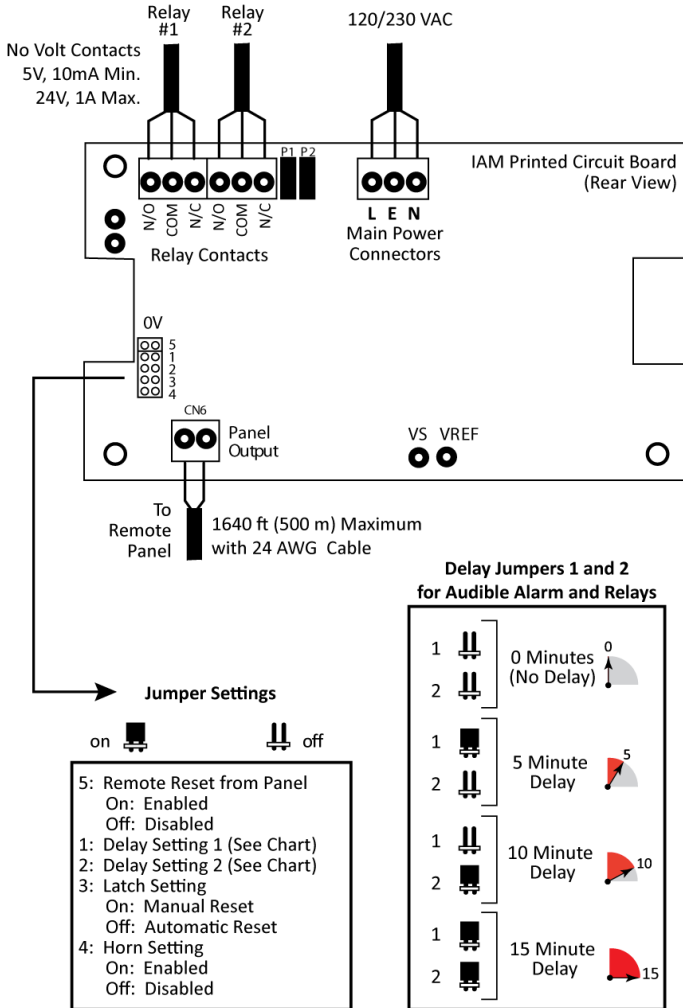
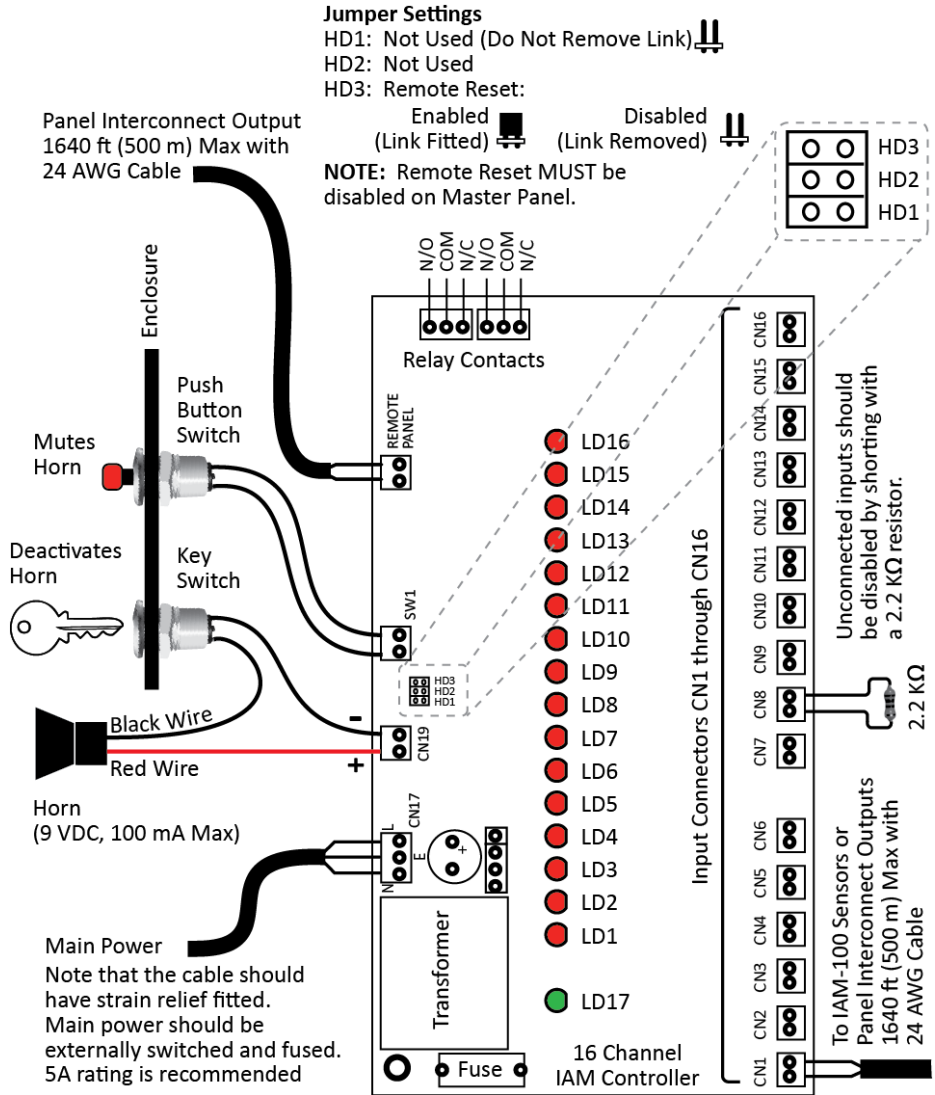

Figure 7. IAM Internal Components and Wiring
Figure 8. IAM Controller Internal Components and Wiring
1	Connect the output to the remote IAM Controller at CN6 (see Figure 7) using two-wire cable. It does not matter which wire goes into which terminal. If installing a stand alone IAM, ignore this step.
Open the IAM-C by removing the two front cover screws. Remove the metal faceplate and locate the connection terminals. To install the IAM-C, refer to the network drawing (Figure 3 on page 7) and wiring diagram (Figure 8).
1	Connect the Remote Panel output to an input of the upstream IAM Controller (see Figure 8 and Figure 3 on page 7) using two-wire cable. It does not matter which wire goes into which terminal. If an upstream IAM Controller is not used, ignore this step.
4	If used in your application, wire the optional alarm horn to connector CN19 using the + and - guides in Figure 8 as a reference.
5	Connect up to 16 IAM sensors (panel output CN6 in Figure 7) to input connectors CN1 through CN16 on the IAM Controller (Figure 8) using two-wire cable. It does not matter which wire goes into which terminal. Observe proper wire type and length limits as specified in Figure 8.
6	Disable individual channels by installing a 2.2 K Ω resistor across each unused terminal block. See input CN8 in Figure 8.
- Deactivate the alarm delay (if active) by removing the alarm delay jumpers per Figure 7.
To test the siren and or relay function, check the delay is set at zero using the header positions 1 and 2 (as shown in Figure 7) and expose to gas as above. You can mute the siren using the mute button.